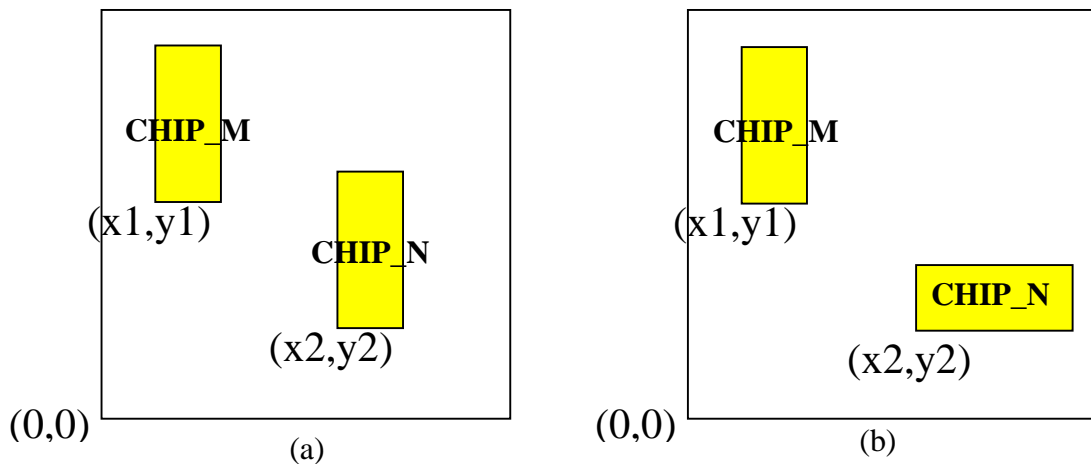

Fig. 3. (a) Chip placement without rotation, (b) CHIP\_N with 90-degree rotation
*rotation*: “N” or “R”. If a chip layout is rotated 90 degrees as CHIP\_N shown in Fig. 3 (b), it is denoted by “R”, otherwise it is denoted by “N”.